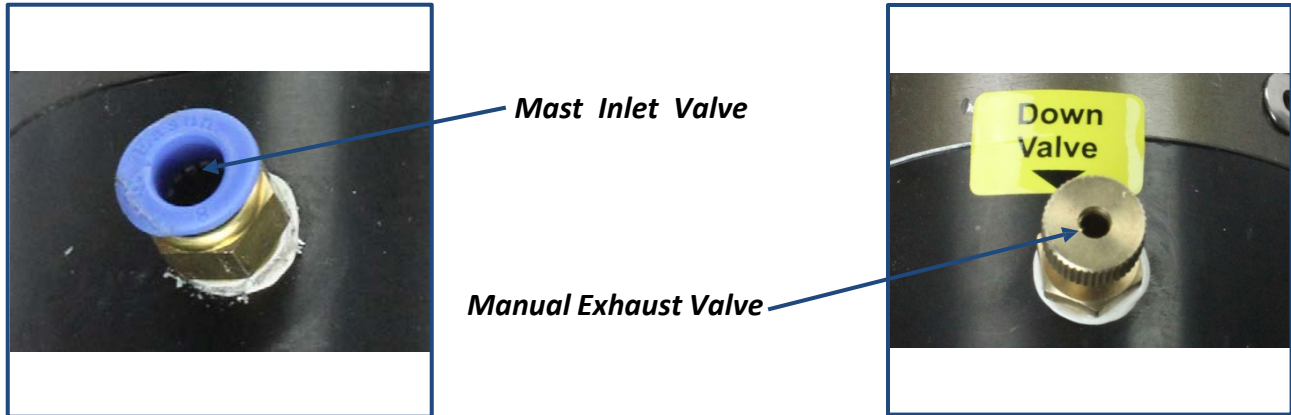

Fig 5: Valves
2. Attach the compressor/foot pump to the mast via the inlet valve show in Fig.5